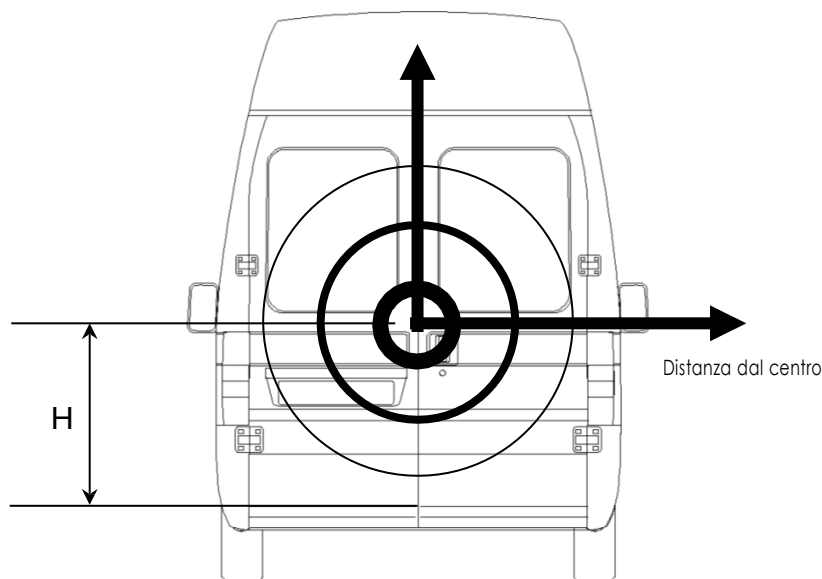

Fig.4
- The positioning of the armor plate relative to the lower edge of the door "H" must be such as to maximize effectiveness, therefore, as close to the center of the door as possible (see fig. 4) to reduce leverage.